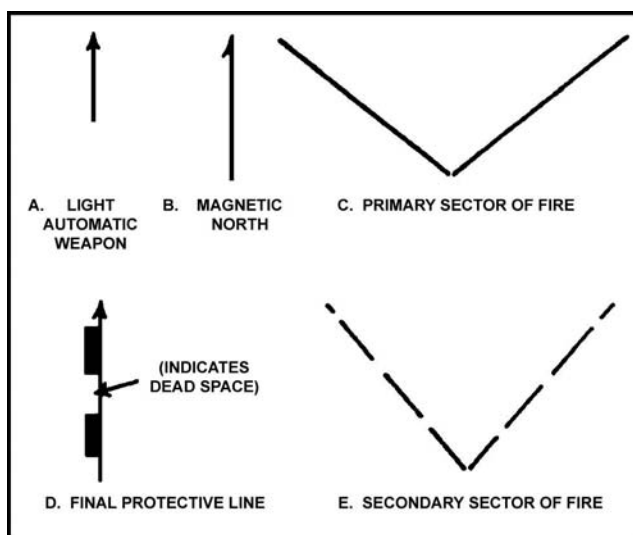

Figure 1. Symbols.
4. Write all necessary information on the range card. Prepare a duplicate range card for the platoon leader. Include on both copies all sketches, symbols (Figure 1) and data.